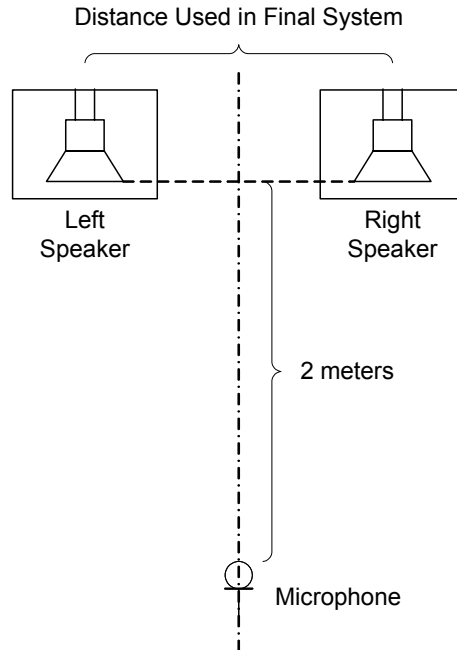

Figure 3. Horizontal Alignment of Microphone and Speakers
4. Align the microphone horizontally as shown in Figure 3 so that it is along the same horizontal axis as the midpoint between the speakers and approximately two meters away from the midpoint. Then, raise the microphone so that it is even with midpoint of the speakers on the vertical axis as well. Both the speakers and the microphone should be positioned above the floor, which should be carpeted to reduce reflections.